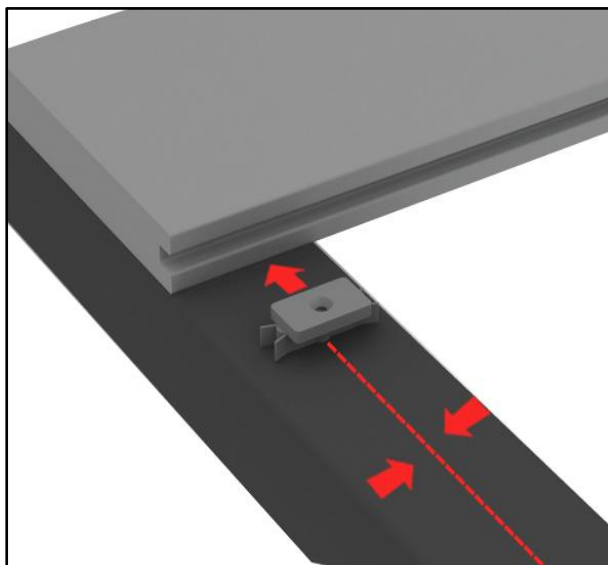

Figure 6
- 4 Middle clips installation, as shown in figure 6 and 7.